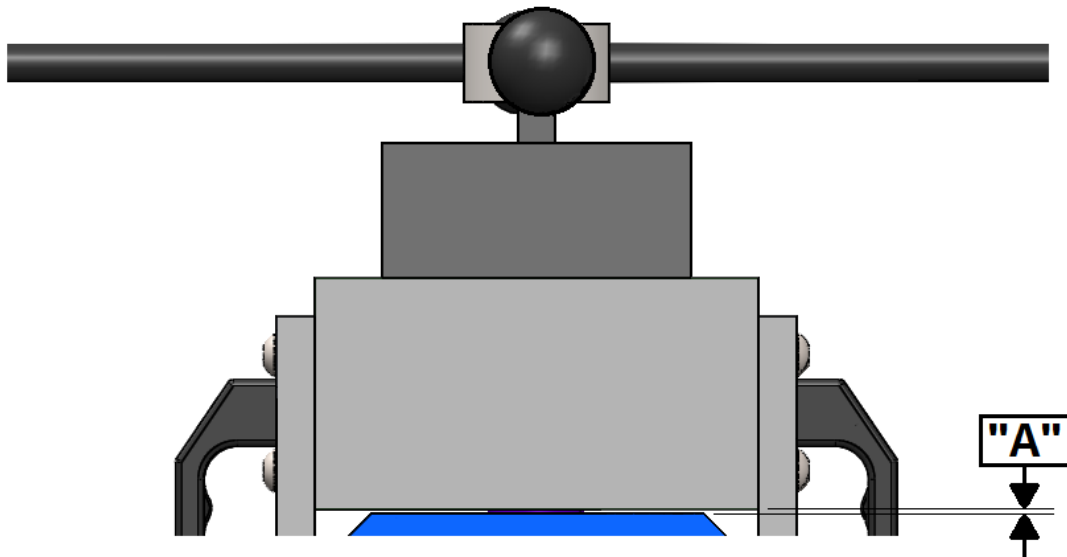

Figure 1: Force Actuator Movement
Force Actuation	~0.007" per turn, ~6 full turns, 16in Ball Knob Handles. Reference Figure 1, below.
- a. Turn actuator counterclockwise gently until hard stop is reached, then turn actuator 1 turn clockwise. Reference Figure 1.
- a. Turn actuator clockwise gently until hard stop is reached, then turn actuator 1 turn counterclockwise. Reference Figure 1.